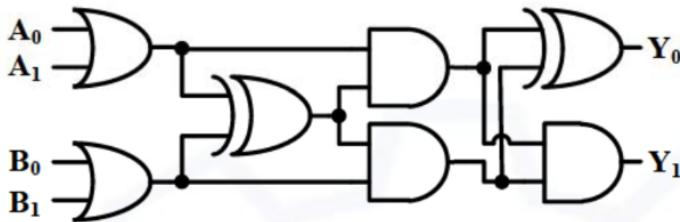

Fig. 4.19
37. In the circuit shown below in Fig. 4.19, Y is a 2-bit (Y_1Y_0) output of the combinational logic. What is the maximum value of Y for any given digital inputs, A_1A_0 and B_1B_0 ? (GATE-BM2021)